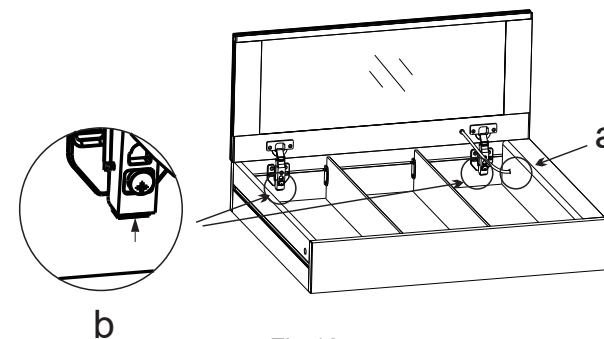

Fig.12
4.1.Loosen the plastic nut and take out the wire (a), hold down the two hinge cover base (b), remove the mirror door.Fig.12